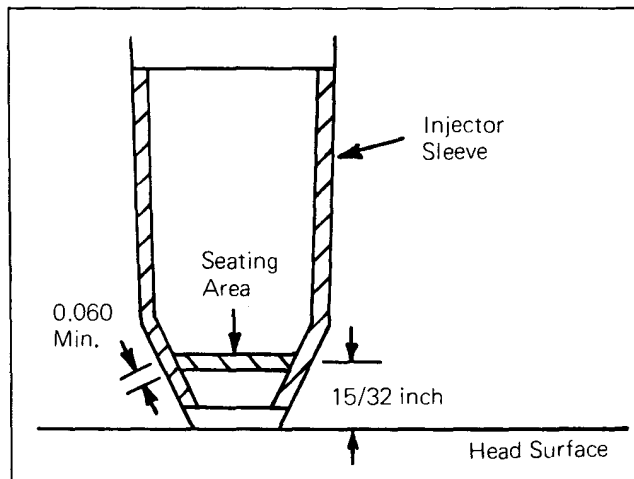

Fig. 2-8, (N10298). Injector sleeve sealing width
1. Lightly coat injector cup with Prussian Blue; install injector assembly into sleeve. Torque to 10 to 12 ft-lbs [14 to 16 N•m]. Remove and check seat pattern. Bluing band must be 0.060 inch [1.52 mm] minimum in width and located approximately 15/32 inch [11.91 mm] from bottom of head surface. If indicated seat width does not meet these specifications, mark sleeve for replacement. See Fig. 2-8.